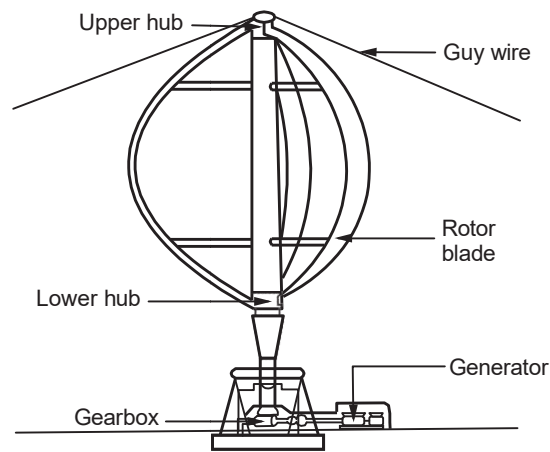

Fig. 3.9.1 Vertical axial wind turbine
- Vertical wind turbines, as shortened to VAWTs, have the main rotor shaft arranged vertically as shown in Fig 3.9.1.